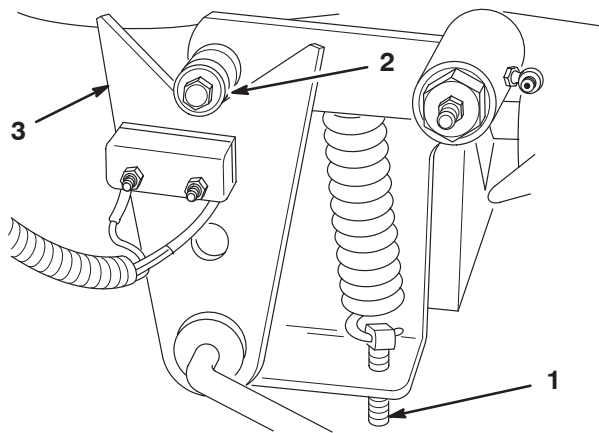

Figure 23
3. Loosen the locknut on the spring adjusting pin until the bearing moves freely from the cam on the lever (Fig. 23), allowing the pump shaft freedom to rotate during start-up.